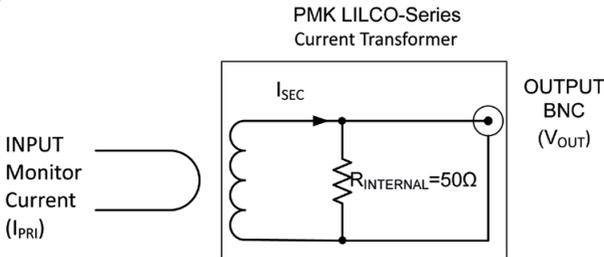

Figure 1 - Simplified Schematic
The measurement principle is the same as of power transformers. The current transformer has a primary and a secondary winding, and an alternating current flowing in the primary winding, I_{PRI} , induces an alternating current in the secondary winding, I_{SEC} . The secondary winding current, I_{SEC} , flows through the internal 50Ω impedance, $R_{INTERNAL}$, generating an output voltage, V_{OUT} , (Figure 1). This burden resistance, $R_{INTERNAL}$, in parallel with the BNC Output Termination, sets the L_{SEC}/R_{BURDEN} time constant along with the secondary winding's inductance, L_{SEC} , to set the low frequency bandwidth cut-off point.
- **Output Sensitivity [V/A]** - The relationship between the input current, I_{PRI} , and the resulting output voltage, V_{OUT} , developed across the output termination resistance, $R_{INTERNAL}$, in parallel with the BNC Output Termination (R_{BURDEN}), of the current transformer. Lowering the output termination resistance, will reduce the output sensitivity. The tolerance of the termination resistance value and the transmission losses in the connecting cable have an influence on the output sensitivity accuracy. (See Figure 1 and Output BNC Termination Selection (Measurement Device Input Termination) Table for more information)